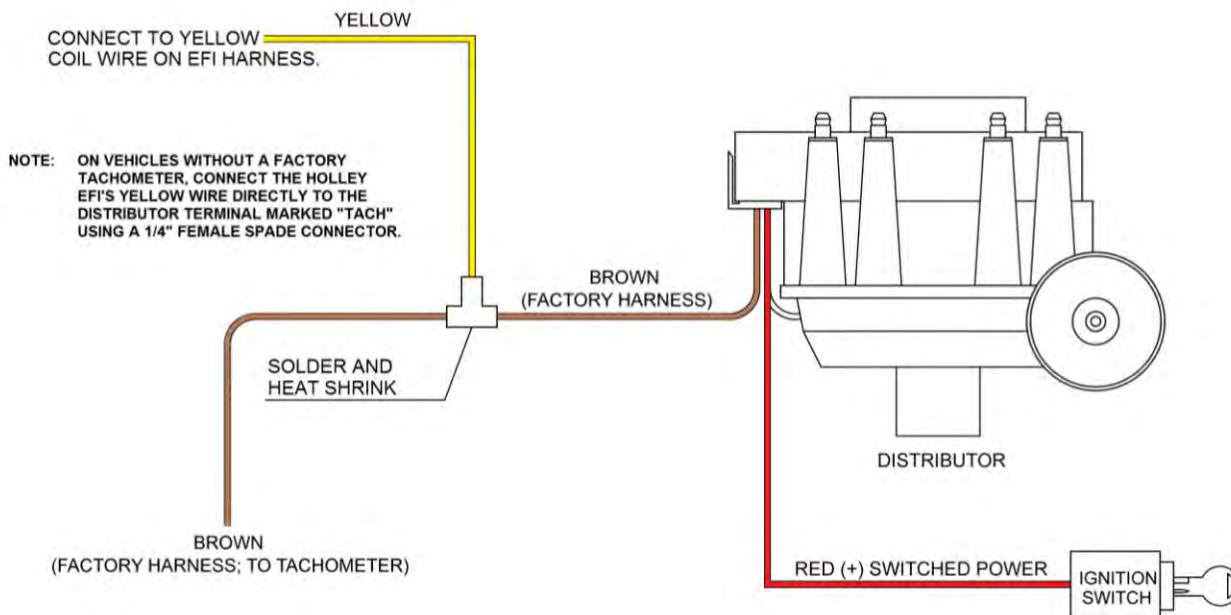

Figure 25
- 1) Any General Motors engine equipped with a factory large cap HEI distributor equipped with mechanical/vacuum advance (Figure 25).
Figure 25 below shows how to connect to a large cap HEI distributor.